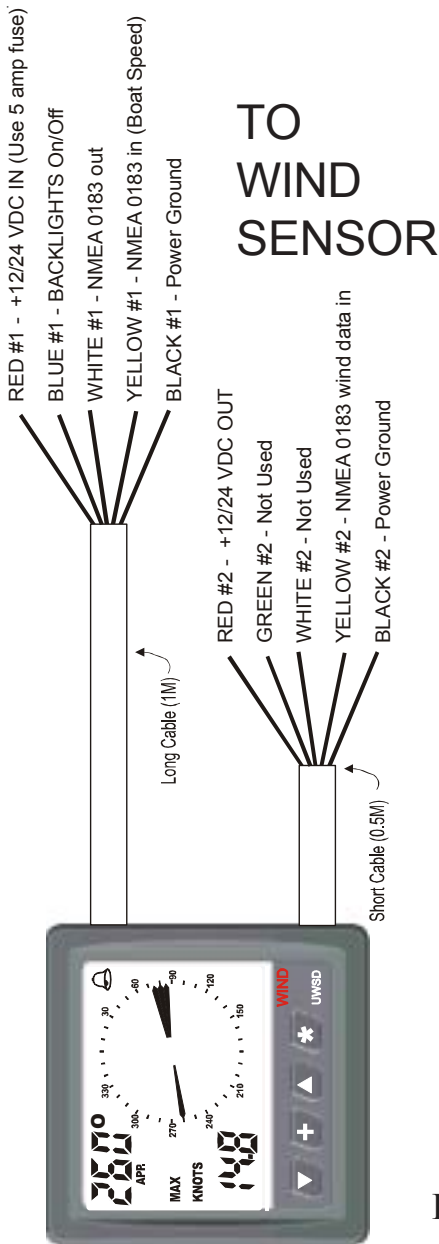

Figure 2
- Connect the various wires from the two cables as shown in Figure 2. Install a five amp fuse in the power line.
- Carefully check all your wiring against Figures 2 and 3 and then mount the instrument in the hole. Use only finger tension to tighten the bracket hold-down nuts - do not tighten too tight.